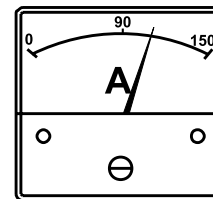

Figure 54. Ammeter (Load)
12. Observe the generator's ammeter (Figure 54) and verify it reads the anticipated amount of current with respect to the load. The ammeter will only display a current reading if a load is in use.